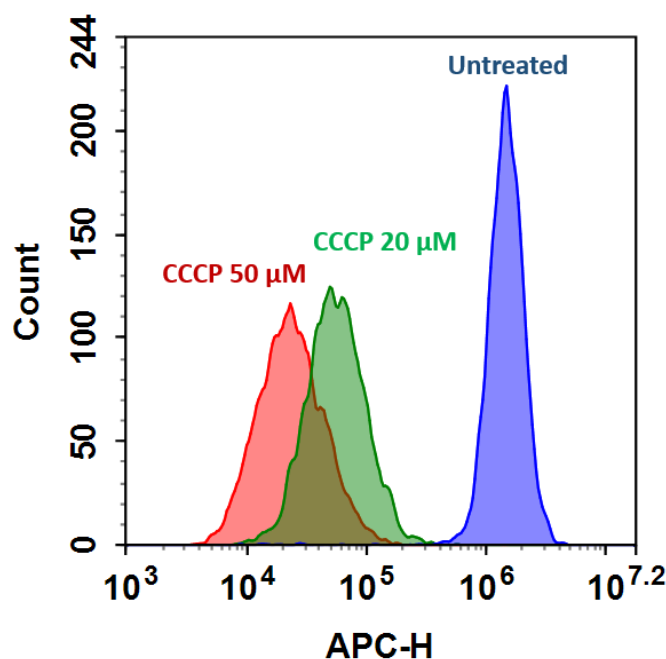

Figure 1.
**Note** We treated Jurkat cells with 20µM CCCP for 15 min at 37°C to change the mitochondrial membrane potential. See Figure 1 for details. CCCP or FCCP